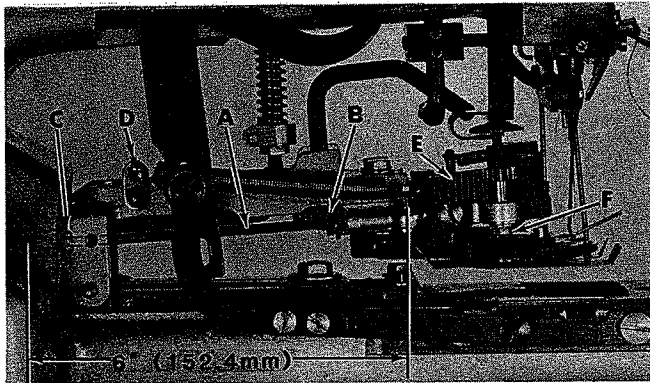

Fig. 41
Engage the machine into RUN POSITION and rotate pulley three complete revolutions. The gear rack (E, Fig. 41) should now start to move forward.
The length of the connecting rod (A, Fig. 41) measured from the center of the front ball to the center of the rear ball should be 6 inches (152.4 mm). When sewing large diameter buttons having greater distances between the button holes the clamp travel is increased and may effect the connecting rod function. Should the gear rack travel too far forward and jam, then the length of the connecting rod must be shortened. If length of the rod is too short the escapement lever will not release the stop pin on the button holder and prevent the holder from rotating. Tension on the gear rack return spring should be enough to rotate the holder.
Loosen locknuts (B and C, Fig. 41) and rotate the connecting rod (A) so that the required dimension between the ball joints is obtained. Tighten locknuts (B and C). Adjust spring tension by positioning spring holder (D).
The distance between the pins (F, Fig. 41) must match the holes in the button. On four hole buttons the pins should enter holes diagonally. If the pins do not correspond to the button holes the orienting pin must be replaced with one having the proper pin spacing.
Engage the machine into RUN POSITION. Rotate the orienting pin by manually moving connecting rod (A, Fig. 41) forward. The pins should drop into the button holes. If pins do not enter the button holes, the holder can be rotated slightly forward or to the rear so the button holes will align with pins.